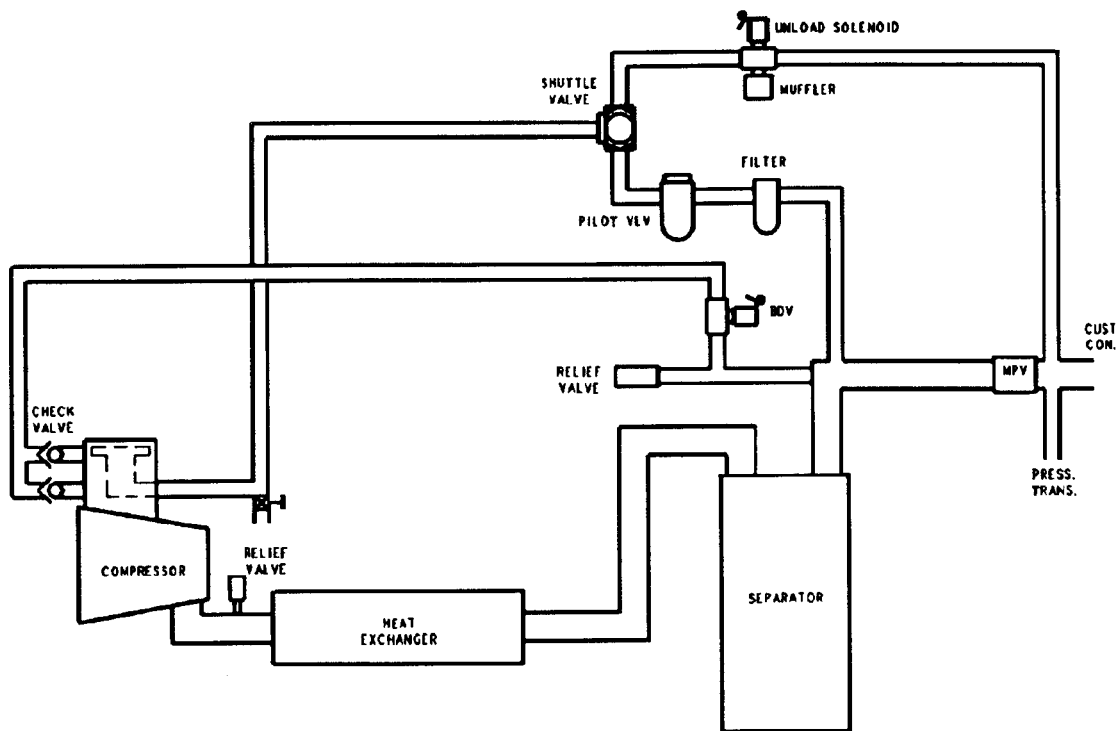

FIGURE 4-1 - CONTROL SCHEMATIC
**AIR CONTROL COMPONENTS** - All units incorporate the following air control components. See Figure 4-1 for schematic tubing diagram.
**Pneumatic Control System Operation** (Figure 4-1) - In the "CONSTANT RUN" mode the motor runs continuously as the compressor loads or unloads to meet air demand. As the demand for compressed air decreases, the system air pressure increases.